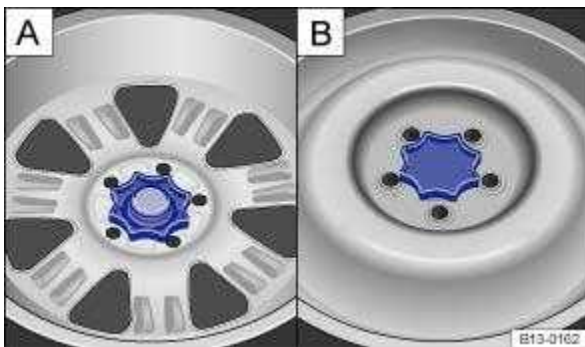

Fig. 197 In luggage compartment: : handwheel for securing spare wheel, : handwheel for securing temporary spare wheel.
- ☐ Fully unscrew the handwheel in middle of the spare wheel ⇒ Fig. 197 in an anti-clockwise direction.